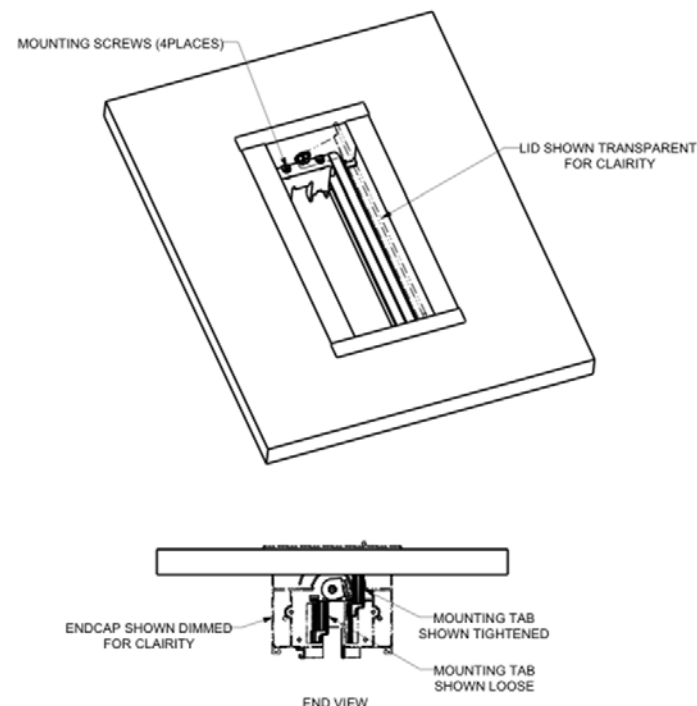

FIG. 6 Mounting Screws & Mounting Tabs
3. Continue to tighten the mounting screws until the mounting tabs contact the backside of the mounting surface to retain the HPX Assembly (FIG. 6).